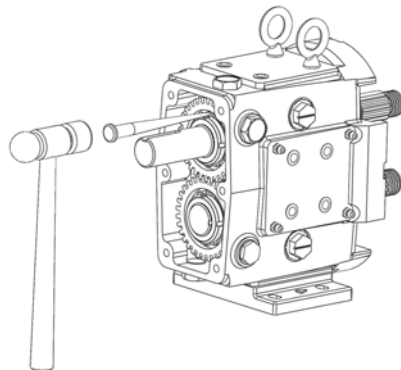
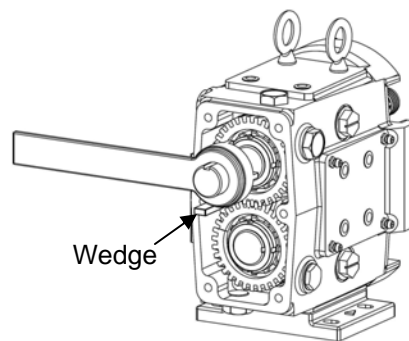

Figure 45: Bending Tabs on Lock Washers
Figure 46: Removing Lock Washers
2) Using a hammer and a punch, bend the tabs straight on the lock washers (Figure 45). Use a wedge (wood or plastic) to keep the shafts from turning while removing the lock nuts (Figure 46). Using a spanner wrench or the nut removal tool (available from Q-Pumps), remove the gear lock nuts. Slowly remove the gears from the shafts. Remove the gear keys and gear spacers from the shafts.